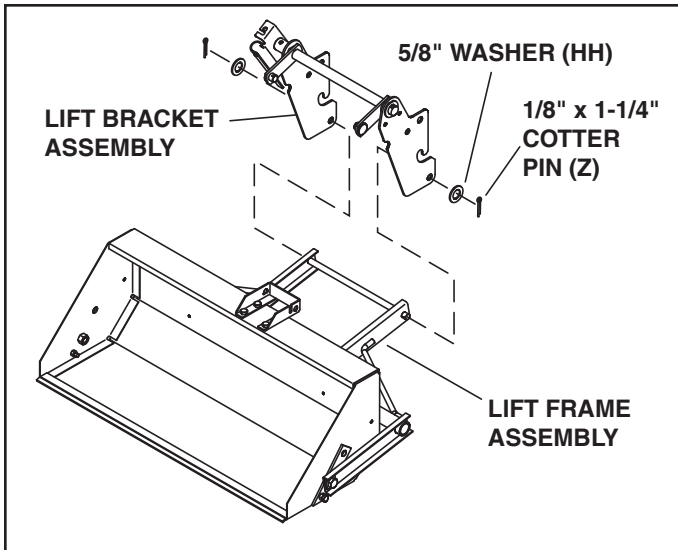

FIGURE 3
STEP 4: INSTALL LIFT BRACKET ASSEMBLY (SEE FIGURE 3)
- Assemble the lift bracket assembly to the lift frame assembly using two 5/8" washers (HH) and 1/8" x 1-1/4" cotter pins (Z).